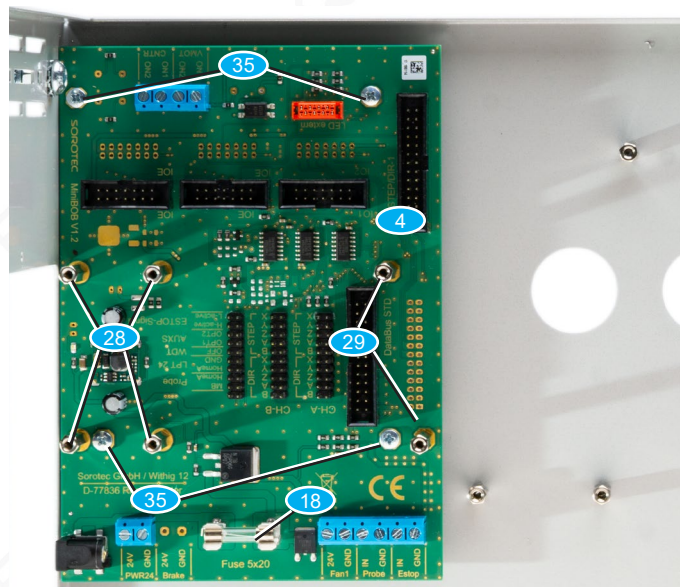

Fig. 9: C3 Bob
- Assemble the C3 Bob **4** with cylinder head screws **35** and the spacers **28** and **29**, as shown in Fig. 9.